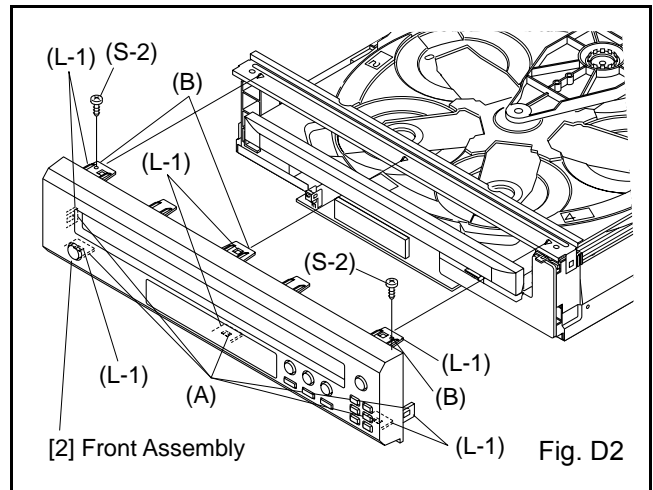

Fig. D2
1-1. To release eight Locking Tabs (L-1), first release five Locking Tabs (A), and then three Locking Tabs (B). (Fig. D2)